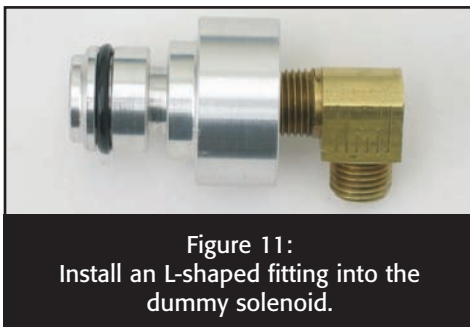

Figure 11:
- 2) Install an L-shaped pipe fitting into the dummy solenoid (figure 11). The fitting we used was 1/8" pipe on one end and 3/16 compression fitting on the other. Once the fitting is installed into the dummy solenoid, install the assembly in the valve body. You must use an O-ring in this area.